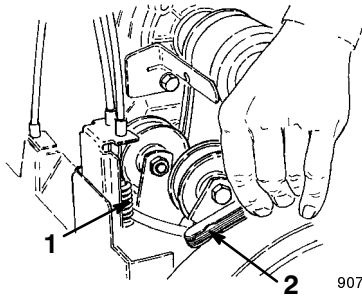

Figure 29
4. Hold the lever and insert a .010 inch (.25 mm) feeler gauge between a coil in the center of the spring (Fig. 29).